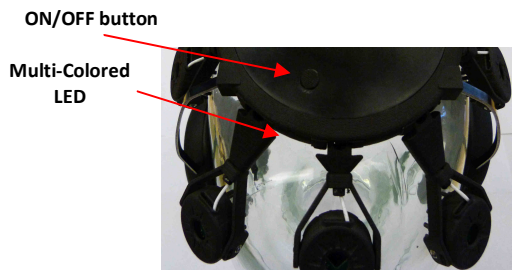

Figure 16. Front panel of DSI-7 system.
- Press and hold the **ON/OFF** button on the electronics package for about six seconds (Figure 16).